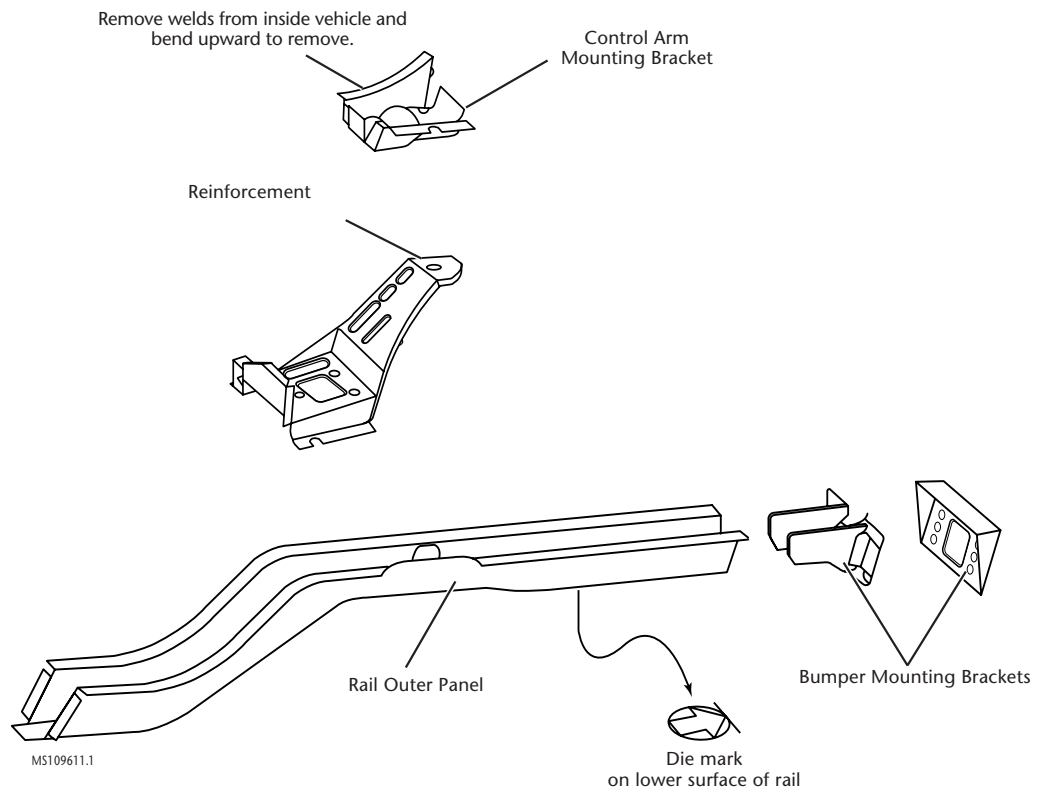

Figure 11-1:
The rear rails are available as a sub-assembly. Each consists of an outer panel, two inner reinforcements, and the bumper mounting bracket (figure 11-1). The outer panel and rear bumper mounting brackets are also available separately to facilitate sectioning. Additionally, there is a crossbar that connects the two rear rails for added strength and rigidity.
- 5 The factory welds attaching the control arm mounting bracket to the inner rocker panel must be drilled out from inside the vehicle (figure 11-1). NOTE: The corner of the floor panel above this area will need to be positioned out of the way.